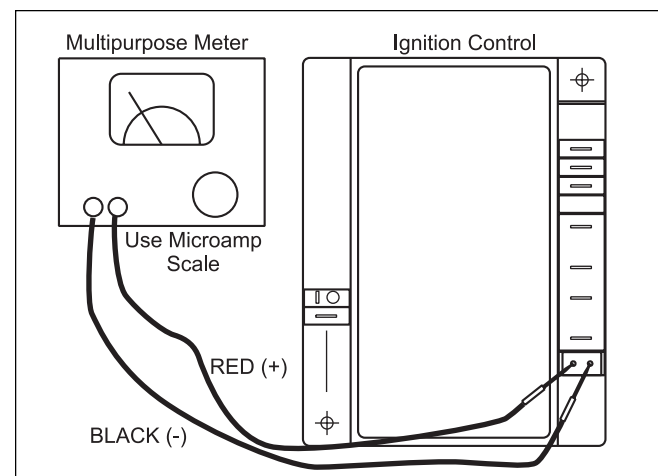

Figure 37. Flame Sensor Current Check.
- b. **Poor flame sensor signal:** The boiler control board will lockout if the flame sensor is grounded or if the flame signal it receives is less than 1 μ A dc. To check for a grounded sensor, remove the flame sensor wire (yellow) from the boiler control board and check for continuity between the yellow wire terminal and the combustion chamber bottom pan. If there is continuity, the flame sensor is grounded. An alternate way to check for grounding of the flame sensor is to check the ohms resistance between the yellow wire terminal and the combustion chamber bottom pan, using a meter set for at least 100,000 ohms. The resistance must be more than 250,000 ohms (some technicians have been confused by meters which report infinite resistance with what appears to them as double zeros; an infinite resistance reading means there is no grounding of the flame sensor.) If there is continuity, or the ohms resistance is less than 250,000 ohms, debris or moisture in the combustion chamber may be the cause. To correct, carefully remove the ignitor and flame sensor assembly. Look for debris on the assembly where the flame rod exits the ceramic tube. If debris exists, remove it. If this area is clean, insert a pencil or other round object into the flame sensor hole in the bottom combustion chamber pan and roll it around to clear any debris that may exist inside the combustion chamber. Replace the ignitor/flame sensor assembly, reconnect the yellow wire and start the boiler. If lockout persists, check the flame signal. The minimum flame current necessary to keep the system from lockout is 1 microamp (μ A). **There is no need to disconnect anything to measure the flame current signal.** To measure the flame signal, connect an analog DC microammeter to the FC terminals on the ignition control, per Figure 37. The meter should read 1 μ A or higher. (If the meter reads below “0” on the scale, the meter leads are reversed. Disconnect and reconnect the meter for correct polarity.) If the meter reading is less than 1 μ A, see the “poor combustion” section. (Check for air leaks at inlet to blower.)